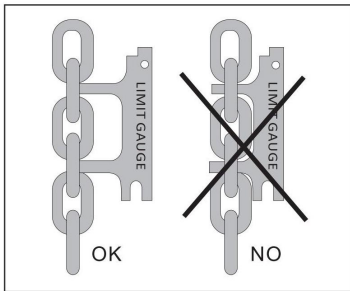
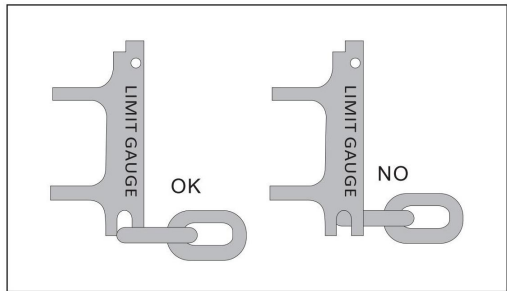

Fig.6.3 Measure of internodal distance
Fig.6.4 Measure of diameter
- (1) It is convenient to measure with chain gauge provided by the manufacturer.
- (2) As shown in Fig.6.3 and Fig.6.4, measure the chain internodal distance and diameter with the chain gauge.
- (3) Every link should be measured, and it must be be replaced with a new one if any of the links is found to be abnormal.
- (4) The application of a worn, distorted, or extended chain may result in chain breakdown.
- (5) The replacement of the chain should be entrusted to a service station or a special agent manufacturer. Never replace it by yourself.
- (6) The chain must be replaced in a whole, no partial replacement is allowed.
- (7) If it is the second time to replace chain, the chain transmission core shaft, adjuster, guide wheel should be replaced at the same time.